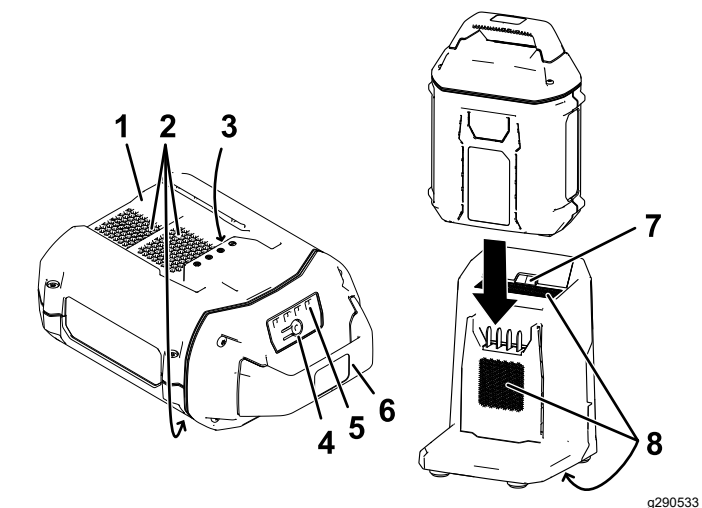

Figure 13
2. Line up the cavity in the battery pack (Figure 13) with the tongue on the charger.
3. Slide the battery pack into the charger until it is fully seated (Figure 13).